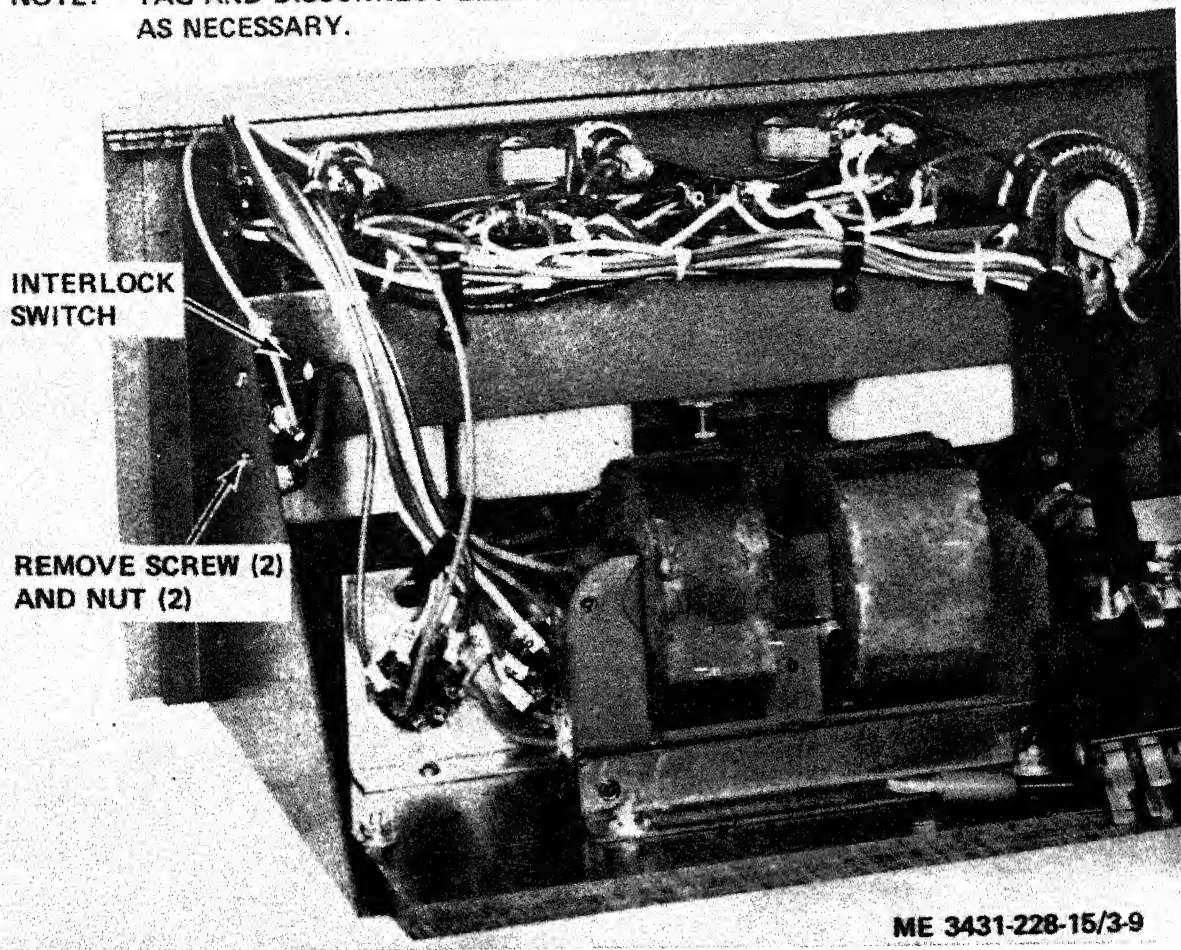

Figure 3-9. Interlock switch, removal and installation.
(1) Disconnect ac power from the welding machine.
(2) Remove the timer and high frequency drawer (para 3-19).
(3) Refer to figure 3-9 and remove the interlock switch.
(1) Refer to figure 3-9 and install the interlock switch.
(2) Install the timer and high frequency drawer (para 3-19).